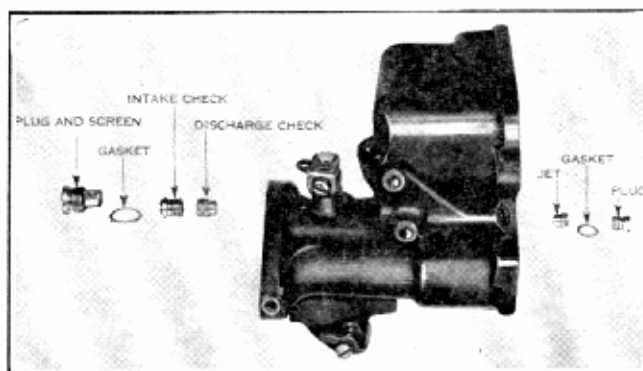

Fig. 16—Accelerating Pump Jet and Checks
3. Assemble the accelerating pump discharge disc check, accelerating pump intake disc check, disc check plug with gasket and screen, accelerating pump discharge jet and discharge jet plug with a gasket as shown in Fig. 16.